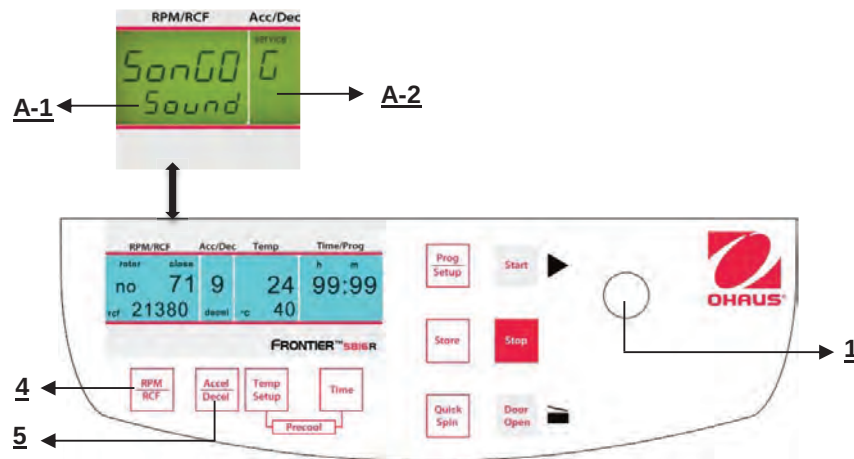

Figure. 34
Proceed as described under point 4.1.1 to enter this program mode and then press the key "**Accel/Decel**" (5). In the display "**Acc/Dec**" (A-2) the word "**Service**" flashes. Now select the letter "**G**" with the adjusting knob (1). As a result, in the display "**RPM | RCF**" (A-1), the word "**SonGo/Sound**" appears. After pressing the key "**RPM | RCF**" (4), you can select a song with the adjusting knob (1). (See figure 34). After you have stored the settings (see 4.1.1) you can change back to the normal program mode again by switch off the centrifuge for a short while.